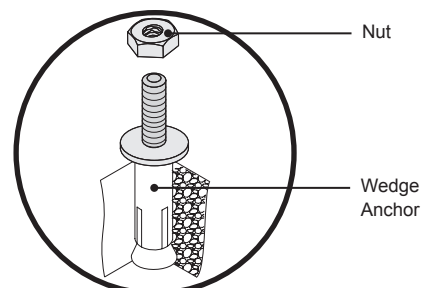

Figure 22. Wedge Anchor Installation
- Insert the wedge anchor into the drilled hole. If necessary, use a hammer and gently tap the wedge anchor into place (Figure 22).